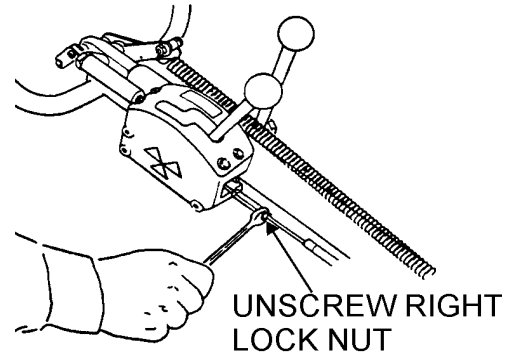

Figure 34. Unscrewing Right Lock Nut
2. Unscrew the two lock nuts on the sides of the cable (Figures 34 and 35).